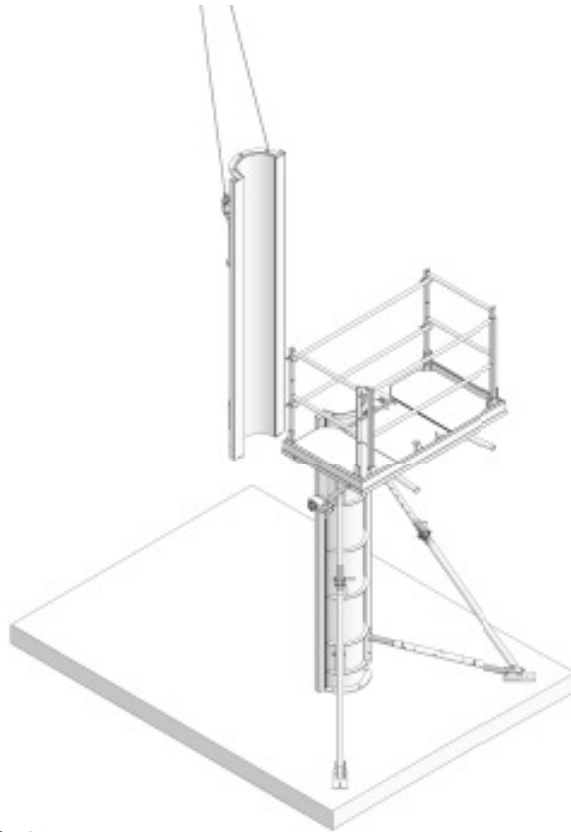

Fig. 9.1
1. Lift the second semi-circular column half with a crane next to the erected semi-circular column half (Fig. 9.1).